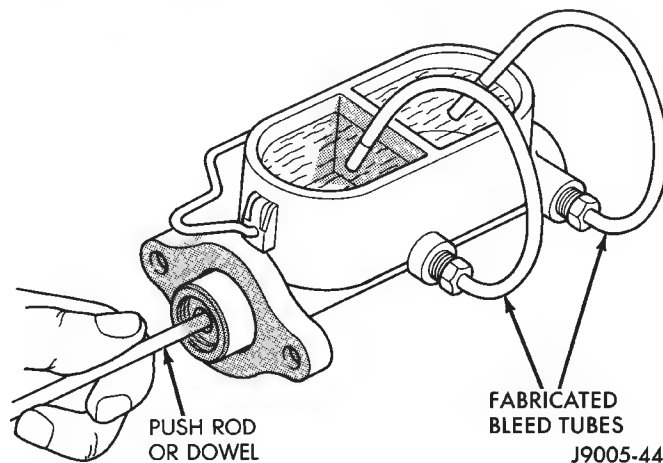

Fig. 26 Typical Method Of Bleeding Master Cylinder (One-Piece Cylinder Shown)
(1) On models with integral master cylinder, fill each reservoir to within 6 mm (1/4 in.) of rim. On two-piece cylinder, fill reservoir to FULL mark.
(2) Fabricate and install master cylinder bleed tubes. Be sure tube ends are submerged in brake fluid. Tubes can be fabricated from rubber hose, or copper tubing and spare brakeline fittings.
(3) Using push rod or wooden dowel (Fig. 26), stroke cylinder pistons fully into bore; then allow pistons to return under spring pressure. Repeat this operation until air bubbles cease to appear in fluid.
(4) Remove bleed tubes, cap outlet ports, and install reservoir cap, or cover and seal.